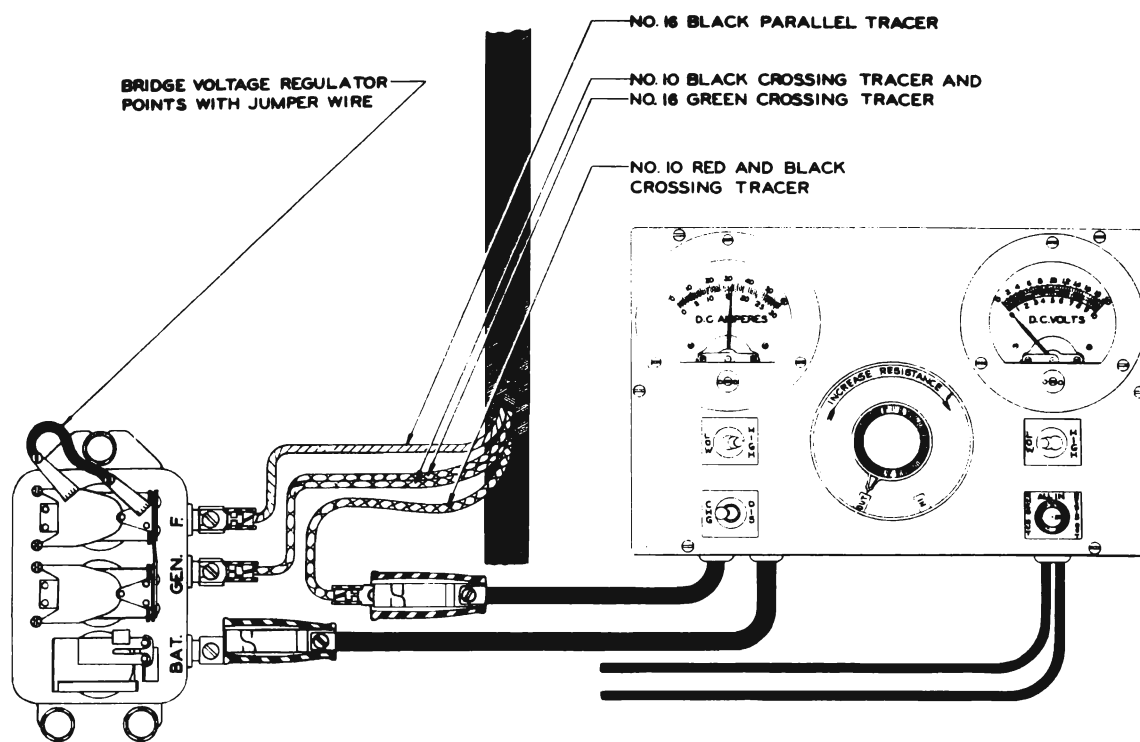

Figure 10-23—Current Regulator Test
3. Remove regulator cover and connect a jumper wire between upper contact and armature of voltage regulator. See figure 10-23. This will prevent voltage regulator from operating and reducing charging rate of generator.
1. *On current regulator unit*, install one spring only. Connect an ammeter in series with "BAT" terminal of regulator and the wire leading to battery. Connect jumper wire between upper contact and armature of voltage regulator (fig. 10-23). With generator operating at 2600 RPM (1400 RPM of engine) adjust spring tension by bending lower spring hanger up or down until current regulator unit operates at approximately 17 amperes. Next install the other spring and adjust its spring tension to obtain 35 amperes hot, *without again touching the first spring*. Remove jumper wire.